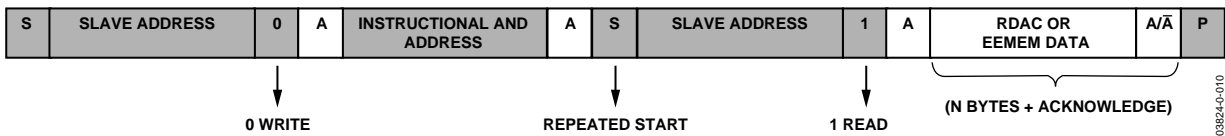
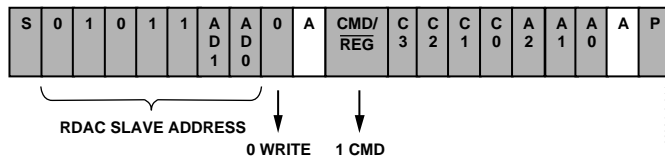
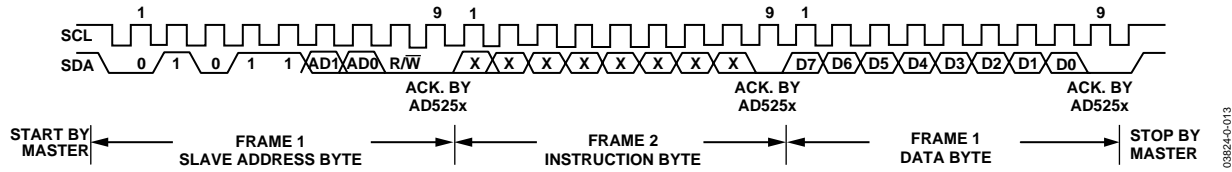
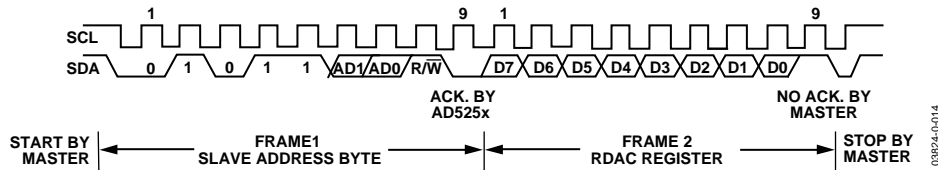

Figure 30. RDAC or EEMEM Random Read
Figure 31. RDAC Quick Command Write (Dummy Write)
Figure 33. General I2C Write Pattern
Figure 34. General I2C Read Pattern
Figure 30 illustrates a random RDAC or EEMEM read operation. This operation allows users to specify which RDAC or EEMEM register is read by issuing a dummy write command to change the RDAC address pointer and then proceeding with the RDAC read operation at the new address location.
The AD5253/AD5254 feature 12 quick commands that facilitate easy manipulation of RDAC wiper settings and provide RDAC-to-EEMEM storing and restoring functions. The command format is shown in Figure 31, and the command descriptions are shown in Table 9.
The first byte of the AD5253/AD5254 is a slave address byte (see Figure 33 and Figure 34). It has a 7-bit slave address and an R/W bit. The 5 MSB of the slave address is 01011, and the next 2 LSB is determined by the states of the AD1 and AD0 pins. AD1 and AD0 allow the user to place up to four AD5253/AD5254 devices on one bus.
AD5253/AD5254 can be controlled via an I2C-compatible serial bus and are connected to this bus as slave devices. The 2-wire I2C serial bus protocol (see Figure 33 and Figure 34) follows:
1. The master initiates a data transfer by establishing a start condition, such that SDA goes from high to low while SCL is high (see Figure 33). The following byte is the slave address byte, which consists of the 5 MSB of a slave address defined as 01011. The next two bits are AD1 and AD0, I2C device address bits. Depending on the states of their AD1 and AD0 bits, four AD5253/AD5254 devices can be addressed on the same bus. The last LSB, the R/W bit, determines whether data is read from or written to the slave device.
enables the RDAC register. The 5 LSB, A4 to A0, designates the addresses of the EEMEM and RDAC registers (see Figure 27 and Figure 28). When MSB = 1 or when the device is in CMD mode, the four bits following the MSB are C3 to C1, which correspond to 12 predefined EEMEM controls and quick commands; there are also four factory-reserved commands. The 3 LSB—A2, A1, and A0—are 4-channel RDAC addresses (see Figure 31). After acknowledging the instruction byte, the last byte in the write mode is the data byte. Data is transmitted over the serial bus in sequences of nine clock pulses (eight data bits followed by an acknowledge bit). The transitions on the SDA line must occur during the low period of SCL and remain stable during the high period of SCL (see Figure 33).
3. In current read mode, the RDAC0 data byte immediately follows the acknowledgment of the slave address byte. After an acknowledgment, RDAC1 follows, then RDAC2, and so on. (There is a slight difference in write mode, where the last eight data bits representing RDAC3 data are followed by a no acknowledge bit.) Similarly, the transitions on the SDA line must occur during the low period of SCL and remain stable during the high period of SCL (see Figure 34). Another reading method, random read method, is shown in Figure 30.
4. When all data bits have been read or written, a stop condition is established by the master. A stop condition is defined as a low-to-high transition on the SDA line that occurs while SCL is high. In write mode, the master pulls the SDA line high during the 10th clock pulse to establish a stop condition (see Figure 33). In read mode, the master issues a no acknowledge for the ninth clock pulse, that is, the SDA line remains high. The master brings the SDA line low before the 10th clock pulse and then brings the SDA line high to establish a stop condition (see Figure 34).